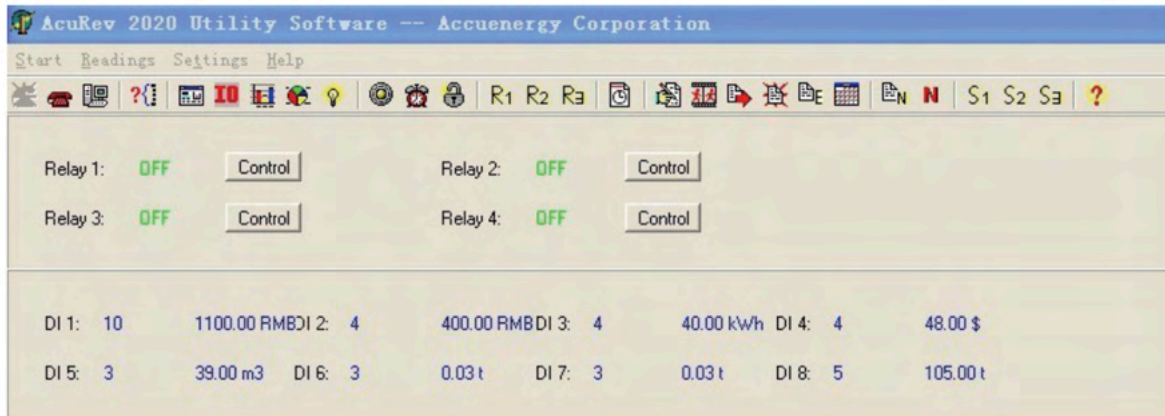
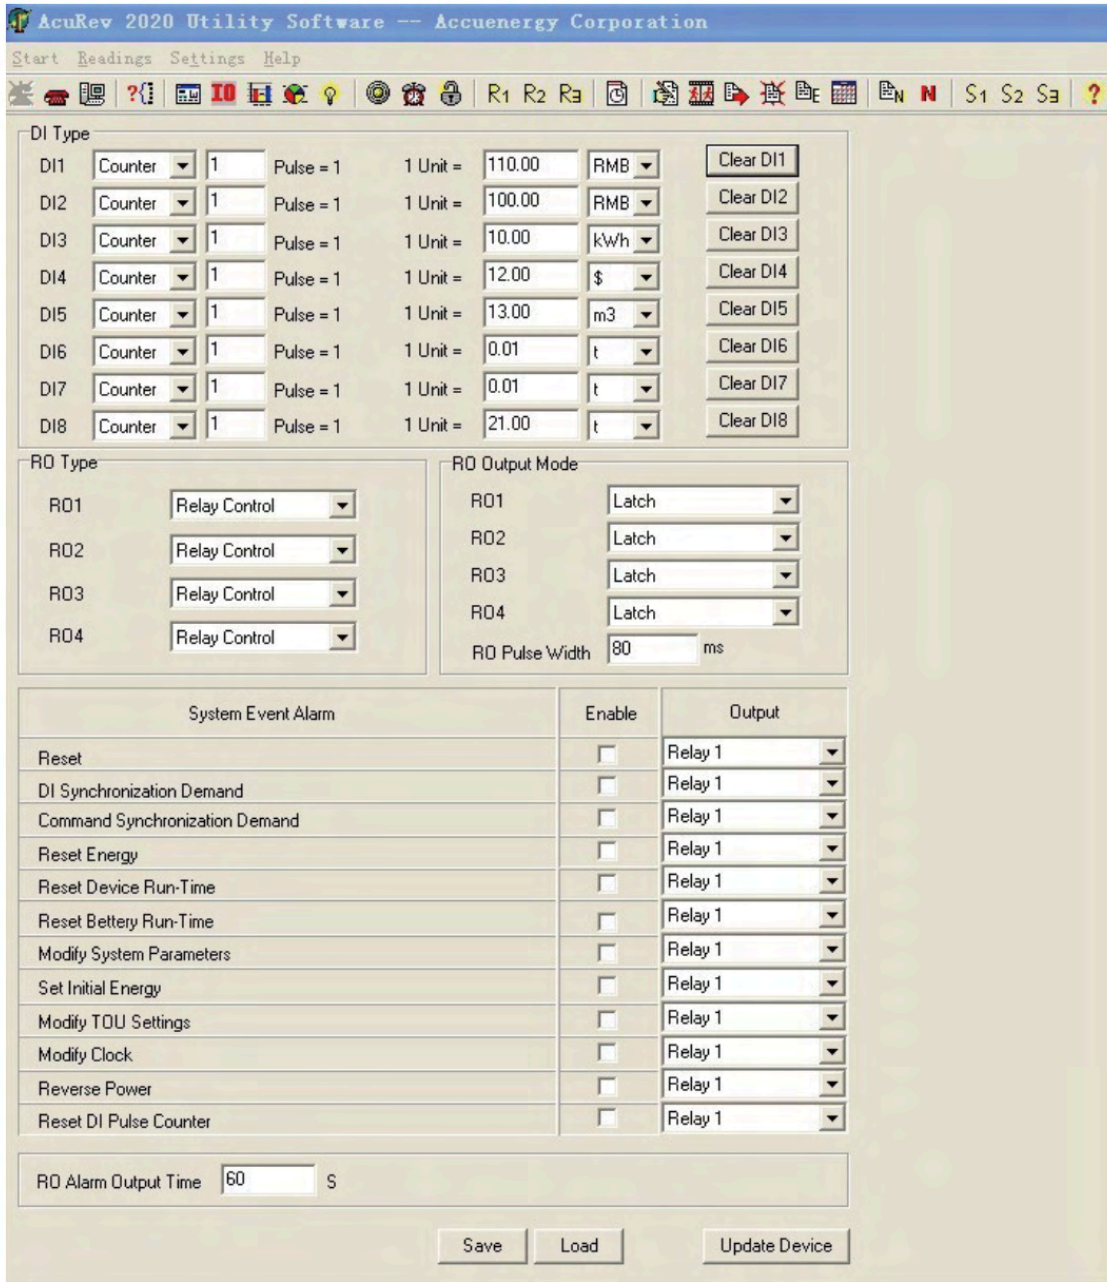

Figure 4-5 DI/RO
Figure 4-6 DI/RO and System Event alarming setup
As Figure 4-5 shows, AcuRev 2000 has 4 Relay Outputs (RO), 8 Digital Inputs (DO). Please refer to Figure 4-6 for DI/RO related settings.
If the Relay Output type is set as Relay Control, click "Control" in Figure 4-5 to send command "close" or "open" to the relay. When the relay is set as alarming output, Relay Control function will be disabled.
When DI type is set as Pulse Counter, it counts the input pulses. The Pulse Counter settings include Pulse Constant (how many pulses equals one count), Category and Unit, Value 83 Figure 4-6 DI/RO and System Event alarming setup (Category multiplied with the count number). The display panel displays the number corresponding to the pulse, as well as the calculated value.